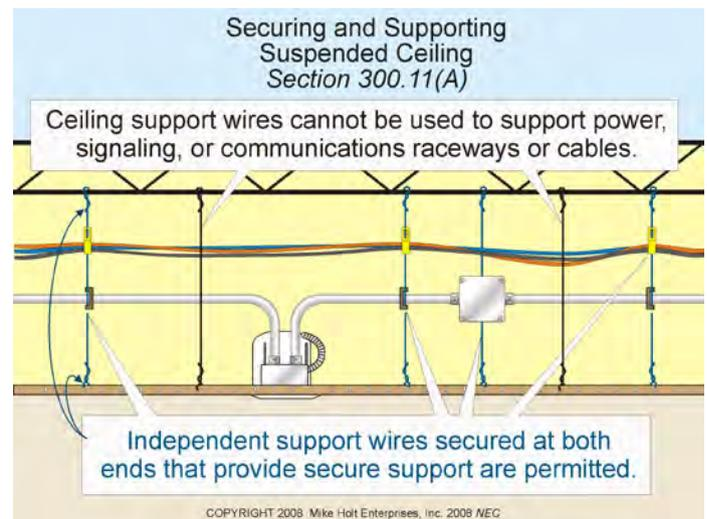

Figure 300-18
(A) Secured in Place. Raceways, cable assemblies, boxes, cabinets, and fittings must be securely fastened in place. The ceiling-support wires or ceiling grid must not be used to support raceways and cables (power, signaling, or communications). However, independent support wires that are secured at both ends and provide secure support are permitted. **Figure 300-18**